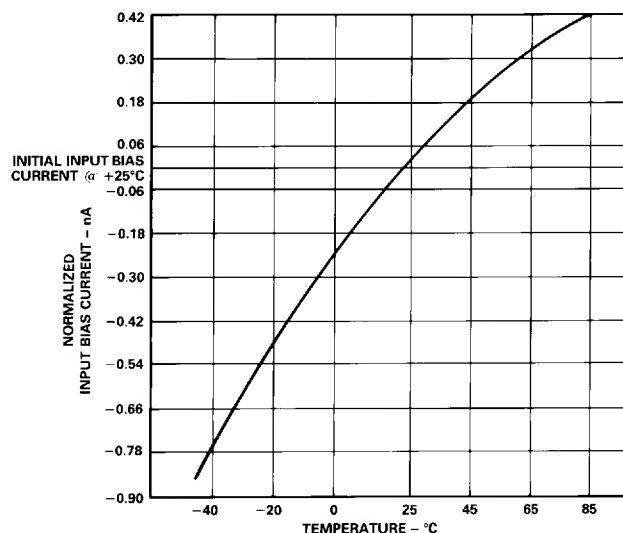

Figure 13. Normalized Input Bias Current (nA) vs. Temperature (°C)
**Input Bias Current.** The typical input bias current variation from the initial bias current at +25°C as a function of temperature is presented in Figure 13.